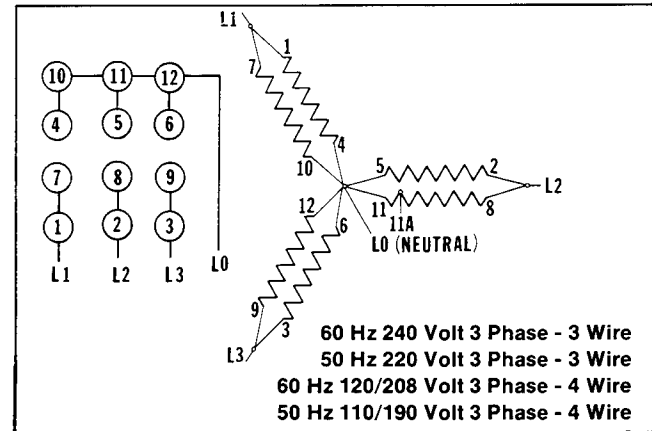

Figure 4
**CHANGE:** Reconnect generator leads as shown in Figure 4. Leave current transformers in their present position. Leads 1, 3 and 8 should go through CT-1, CT-3 and CT-2 respectively. Small leads V0, V1, V2, V3, 8, 11, 8B and 10B remain connected as shown in Figure 7.
**CHANGE:** Reconnect generator leads as shown in Figure 4. Install new current transformers as shown in Figure 7. Small leads V0, V1, V2, V3, 8, 11, 8B and 10B should be connected as shown in Figure 7. Connect lead from upper scale indicating lamp to hourmeter in controller upper cabinet as shown in Figure 11.
**CHANGE:** Reconnect generator leads as shown in Figure 4. Install current transformers, replace safeguard breaker if required, and reconnect small leads V0, V1, V2, V3, 8, 11, 8B and 10B as shown in Figure 7. Rewire selector switch in Decision Maker upper cabinet as shown in Figure 11. Replace ammeter if required.